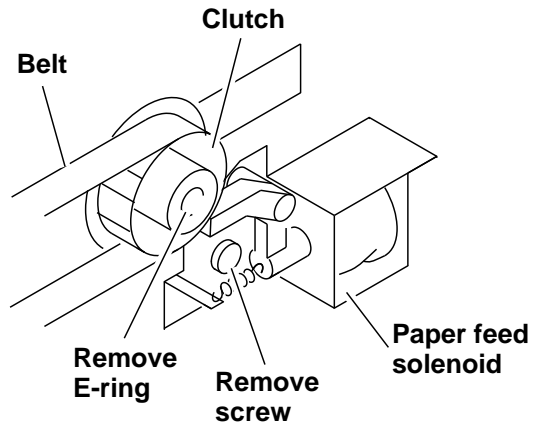

Figure 12. Clutch assembly removal
- b. Remove screws securing paper feed solenoid (Figure 12).